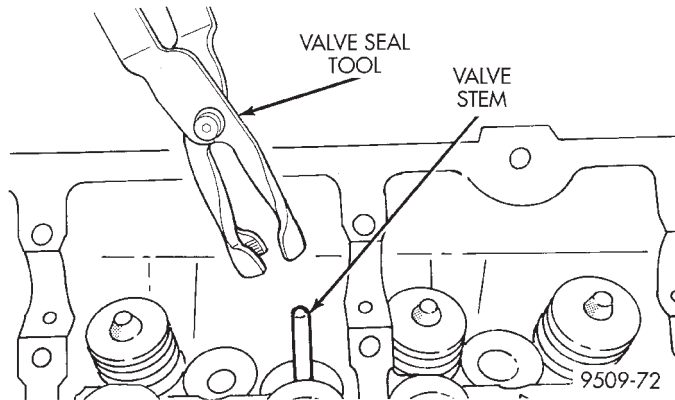

Fig. 28 Valve Stem Oil Seal Tool
(6) Remove valve stem seal by using a valve stem seal tool (Fig. 28).